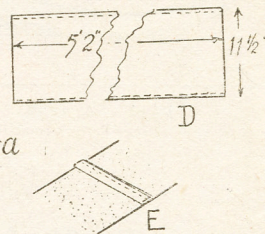

Fig. 4—Details of covering
given in Fig. 4 (D), from some stiff brown or cartridge paper, pin this to the material (doubled for two to be cut at once) and cut out carefully.
sew a second time through the doubled hem and covering as well. The detail (E) in Fig. 4, will explain this. It may not be necessary to add, perhaps, but if a lady friend is able to stitch it with a machine, some tedious work can be avoided. Few fellows care much about the feminine job of sewing.